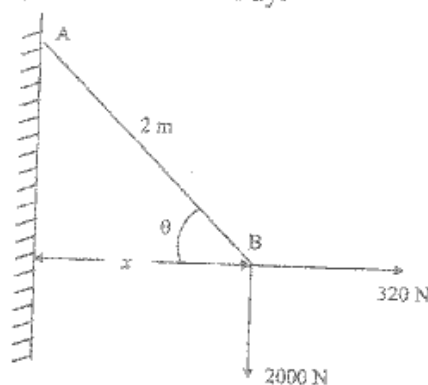

Fig. 1
- (b) A body weighing 2000 N is suspended with a chain AB 2 m long. It is pulled by a horizontal force of 320 N as shown in fig. 1. Find the force in the chain and the lateral displacement of body. 14